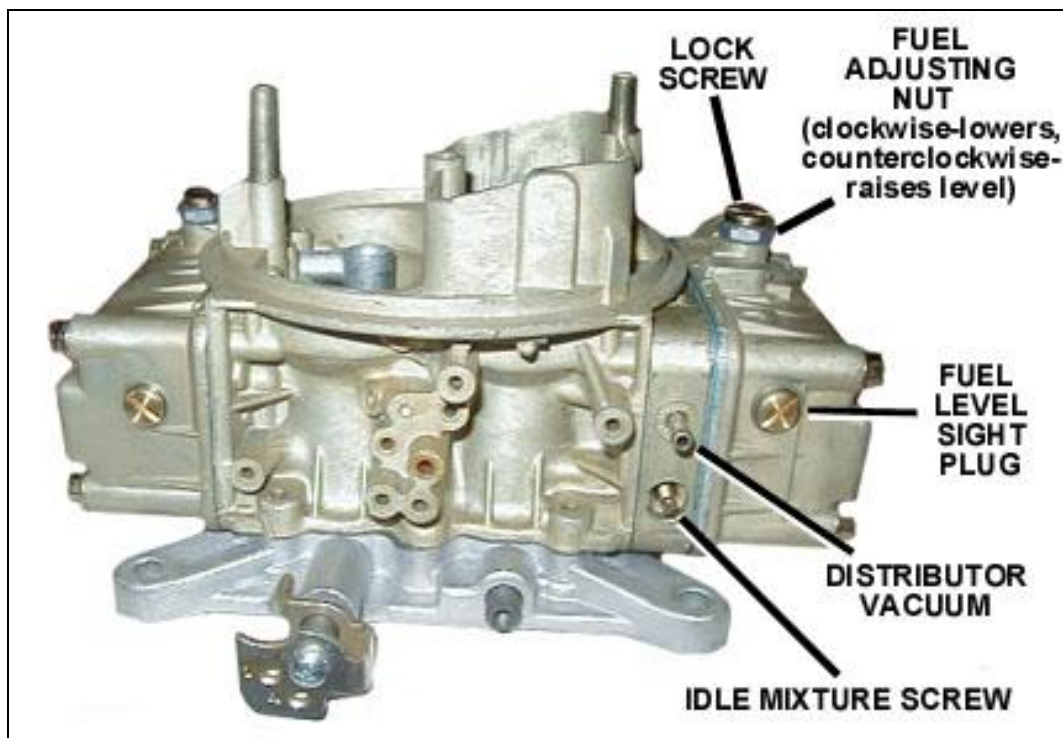

Figure 2
6. Connect the distributor advance line to the carburetor. (See Fig. 2) Plug this port, if it is not used.
**NOTE:** It is easier to make the idle setting with the air cleaner removed, but to ensure that the final readings are correct, they should be taken with the air cleaner installed. (See Fig. 2)